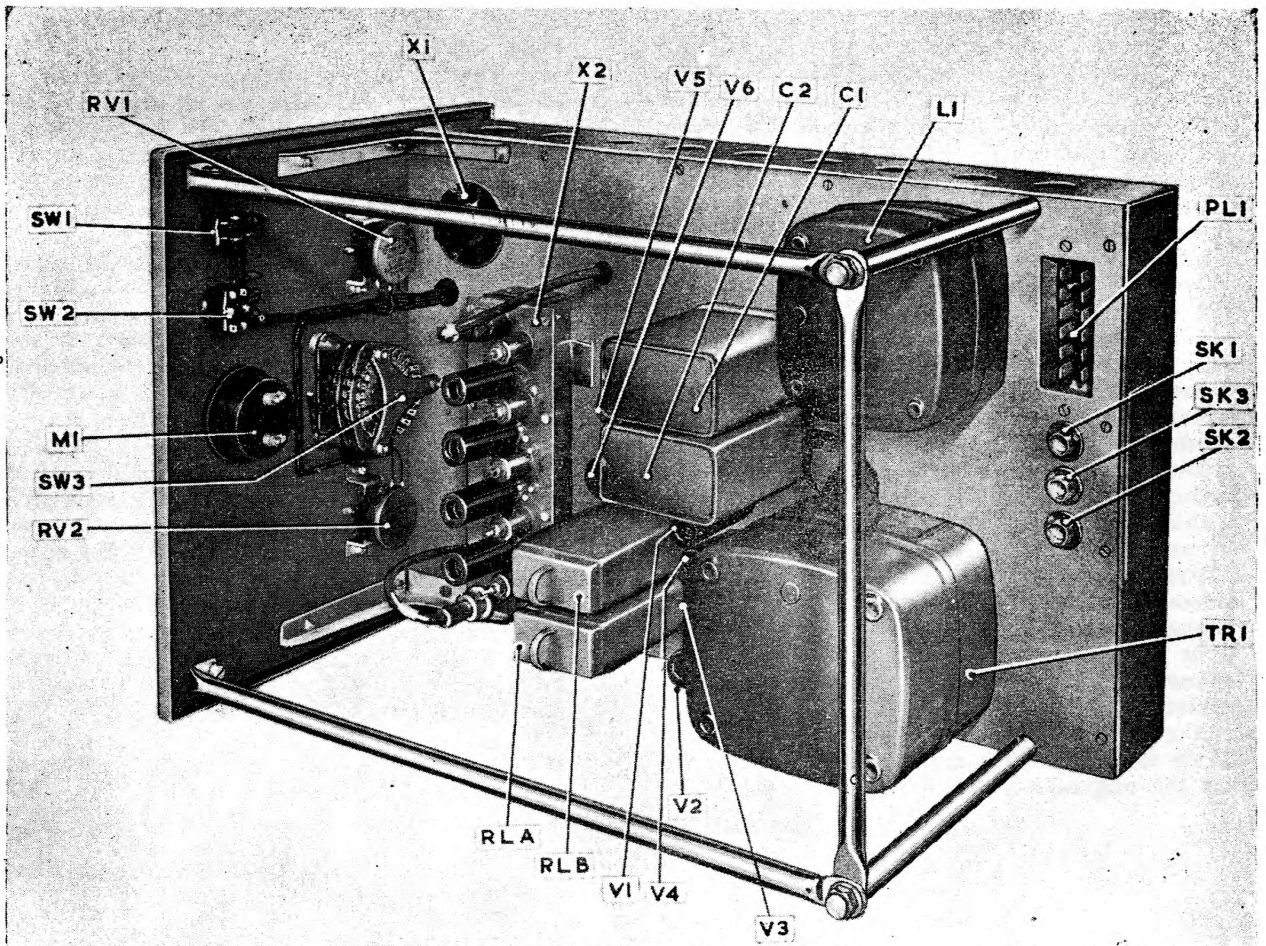

Fig. 7. Amplifier Type A.3720, top chassis
16. At the radar office, the combined signals of 45 Mc/s IF and IFF video are accepted at the input socket SK1 of the amplifier Type A.3720, where they are separated. Chassis views and component layouts of the amplifier Type A.3720 are shown in fig. 7 to 10. The circuit diagram is fig. 14.